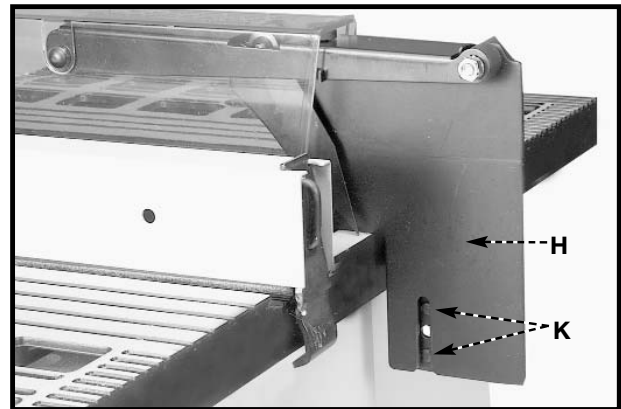

Fig. 21
5. Position the splitter (H) Fig. 21 against the splitter support bracket, making certain the two protrusions (K) on the splitter support bracket are inside the slot of splitter (H).